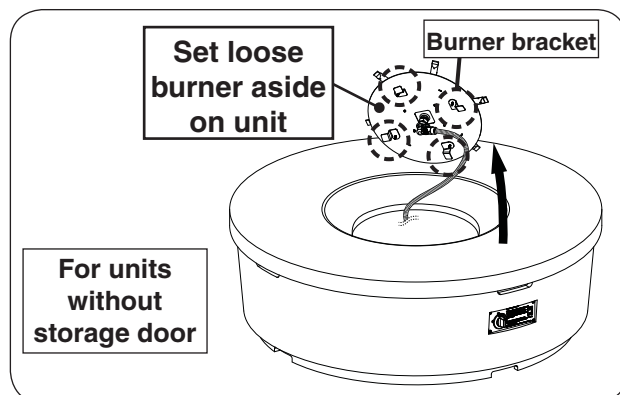

Fig. 20-2 Remove burner assembly (if needed)
1. Use a $\frac{5}{16}$ " nut driver to partially unfasten the four screws found on the burner assembly. Then carefully remove the burner and set it off to the side. See Fig. 20-2.
Remove the storage door by first turning the door handle counter-clockwise, then carefully pulling the door outward (see Fig. 20-2). Store in a safe location.